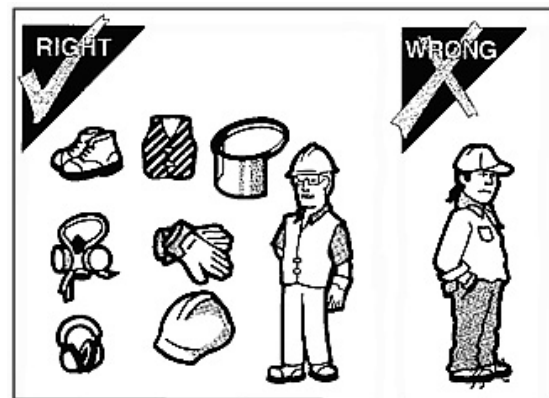

Figure 1-4
1.3.1.6 For your own protection, always use personal protective equipment (figure 1-4).